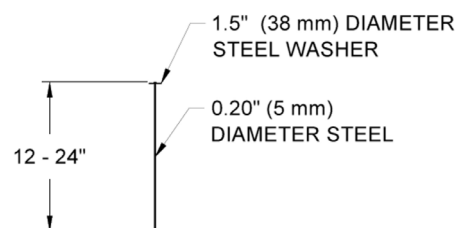

Figure 4: Securing Pin
- Washer pins should be made of steel with a 0.20 in (5 mm) minimum diameter, having a 1.5 in (38 mm) diameter washer at the head, and a length between 12 and 24 in (300 mm - 600 mm) with sufficient ground penetration to resist pullout (Figure 4).